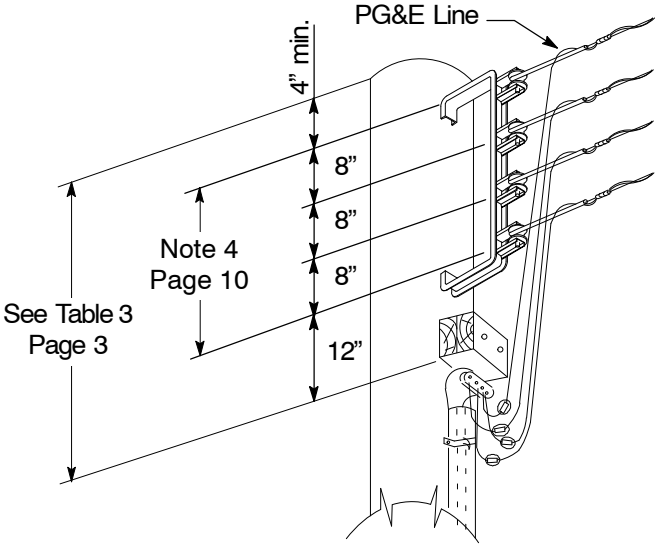

Figure 7
6. Revised Title for Figure 7, on Page 11.